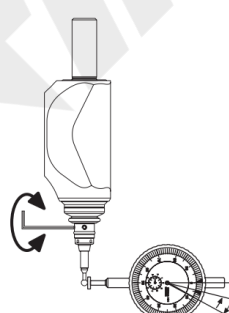

Figure 5
- Turn spindle with 3D tester by another 180°, and now the dial gage shows the deviation of the Y-axis. (as shown in Figure 5, the indicator reading is 0.08mm)